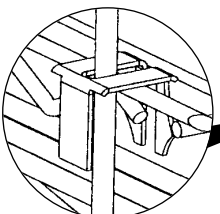

figure 9
- Clip the rods to the bottom shelf with the clips provided (see figure 9).